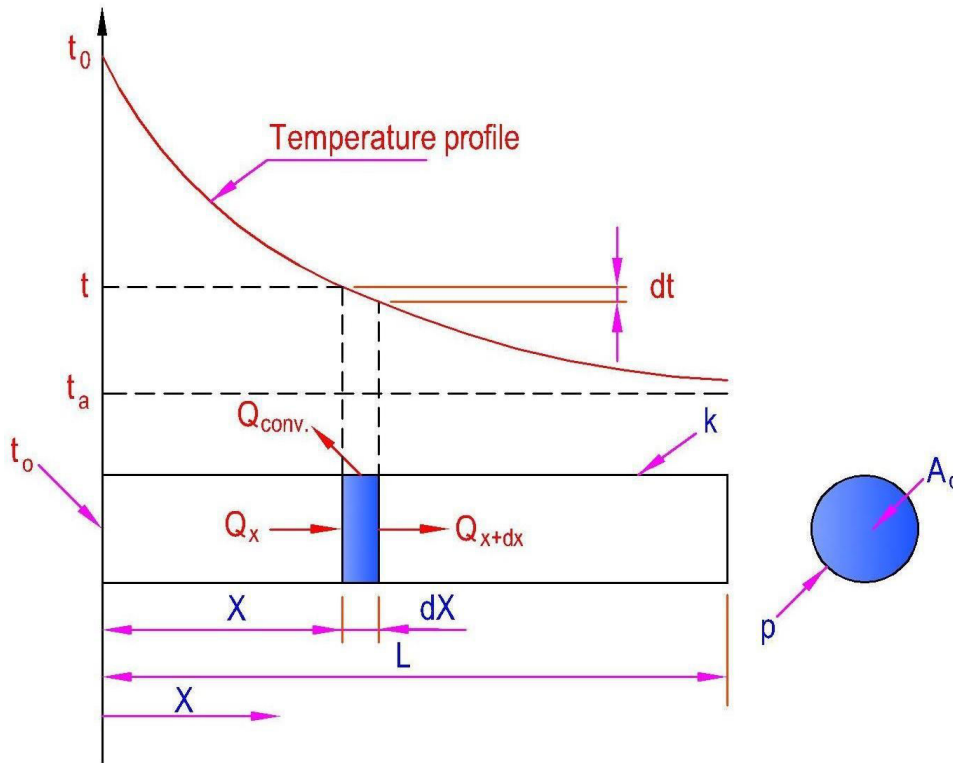

Fig. 3.2 Heat transfer through a fin
- Consider infinitesimal element of the fin of thickness dx at a distance x from base wall as shown in figure 3.2.